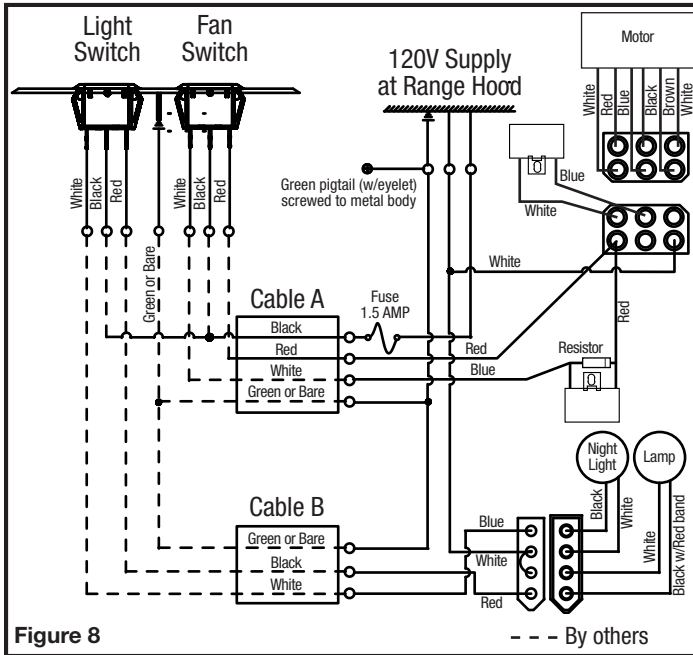

Figure 8
- Connections at the range hood (Figure 8):**
5. **Connections at the switch box (Figure 8):**